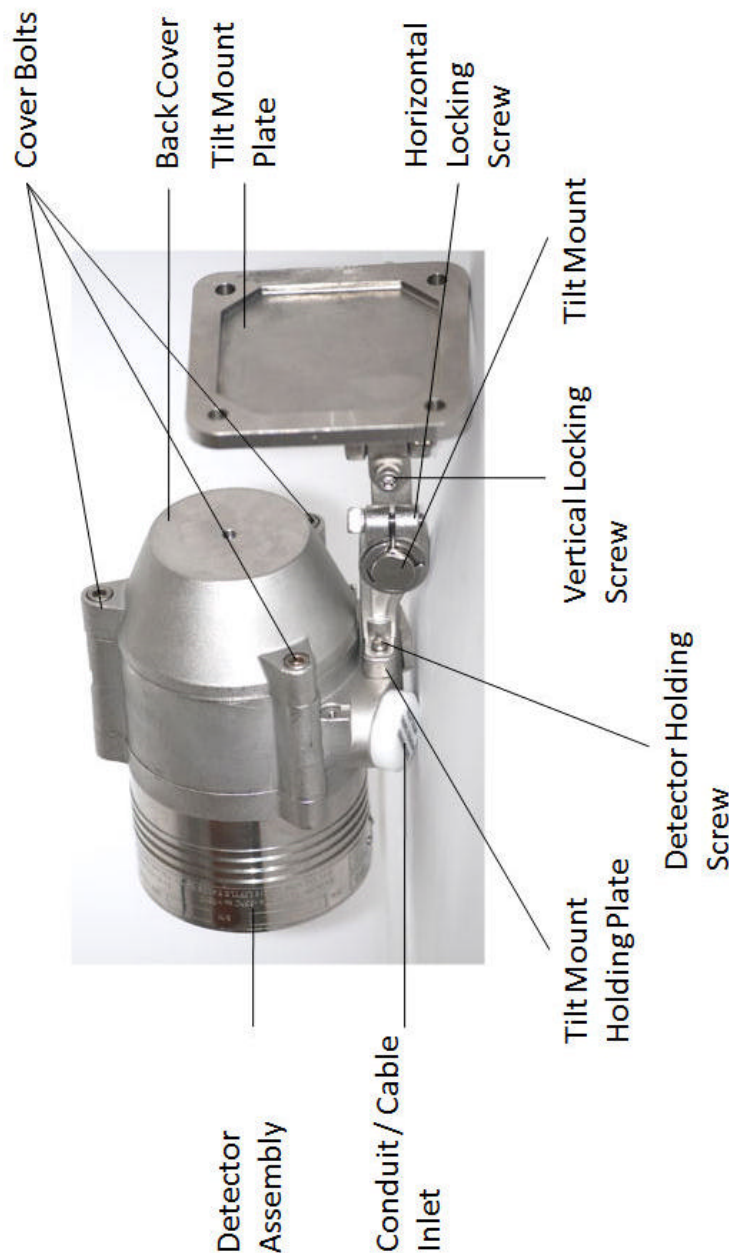

Figure 4: Detector with Tilt Mount
Figure 4 shows the Detector mounted on the Tilt Mount.
- 23 Place and secure the detector's back cover by screwing the four (4) socket-head-screws in the Cover Bolts (Figure 4).